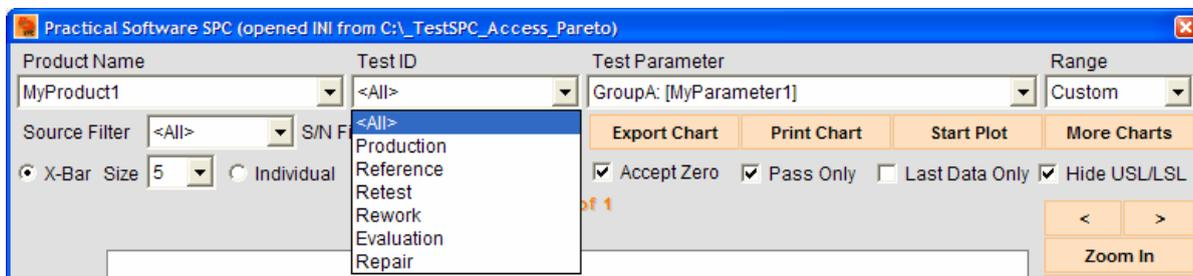

Figure 6 Test ID List Box
**TestID** that available for selection (see Figure 6), each item will separate by comma. This is a filter key, for instance, if you choose **Production** PSSPC will select only records that present the word **Production** in field TestID (or other filed name if you used the field mapping feature) of database. Leave it blank if you not prefer to filter them.